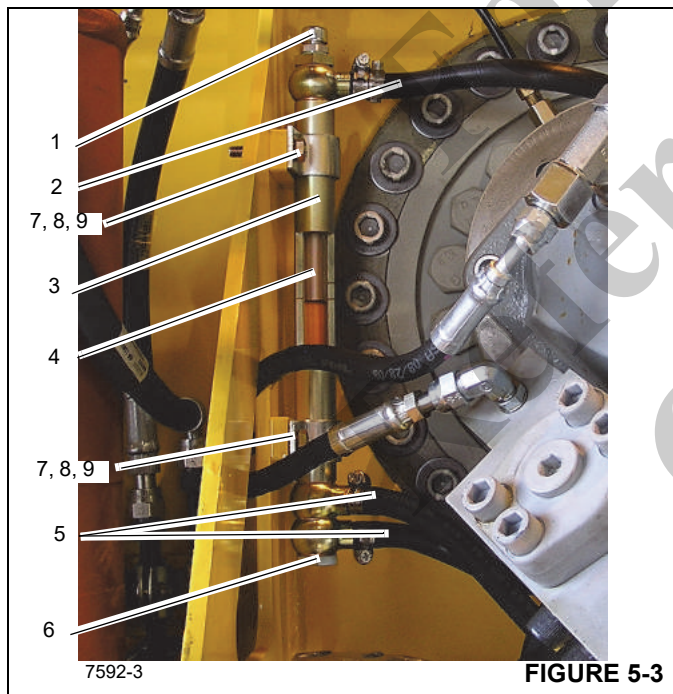

FIGURE 5-3
- a. Place a receptacle under the tube (3) (Figure 5-3).
- b. Unscrew the nuts (1) and (6) (Figure 5-3) and let the oil drain out.
- c. If removing the oil tube, remove the capscrews (7), flatwashers (8) and nuts (9) (Figure 5-3) and remove the oil tube from superstructure.
11. If the oil tube (3) (Figure 5-3) was removed, install and secure with the nuts (9), flatwashers (8) and capscrews (7). Ensure the max marking on the oil level tube is positioned at middle of hoist.
12. Fill the oil through the oil tube (3) (Figure 5-3) up to the max mark (4). Refer to *Lubrication, page 9-1*. Replace the gaskets and secure the hoses (2) with the bolt (1) (Figure 5-3).
1. Place a receptacle under the tube (3) (Figure 5-3).
2. Unscrew the nuts (1) and (6) (Figure 5-3) and let the oil drain out.
1. Install the lower sight glass drain nut (6) (Figure 5-3).
2. Fill the oil through the oil tube (3) (Figure 5-3) up to the max mark (4). Refer to *Lubrication, page 9-1*.
3. Install the fill nut (1).